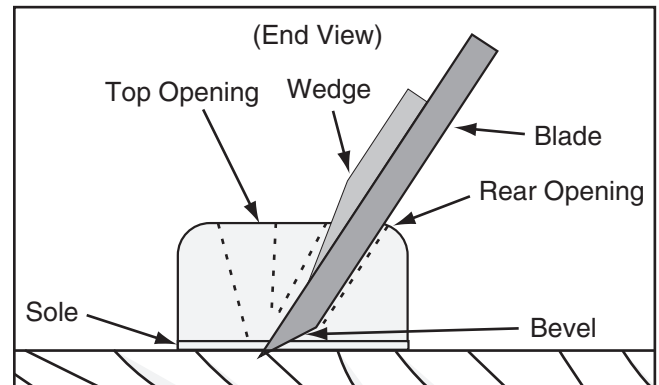

Figure 2. Blade secured with wedge.
2. Insert the blade, bevel-face down through the rear opening of the spokeshave, then place the blade tip through the sole of the spokeshave for the initial cut, as shown in **Figure 2**. Ensure the blade is even from side to side.
3. Slide the wedge downward over the blade (**Figure 2**) until the wedge is snug.
3. Place the front and back of the sole (see **Figure 2** on **Page 1**) and the blade on the workpiece, and orient the spokeshave so it will cut with the grain.